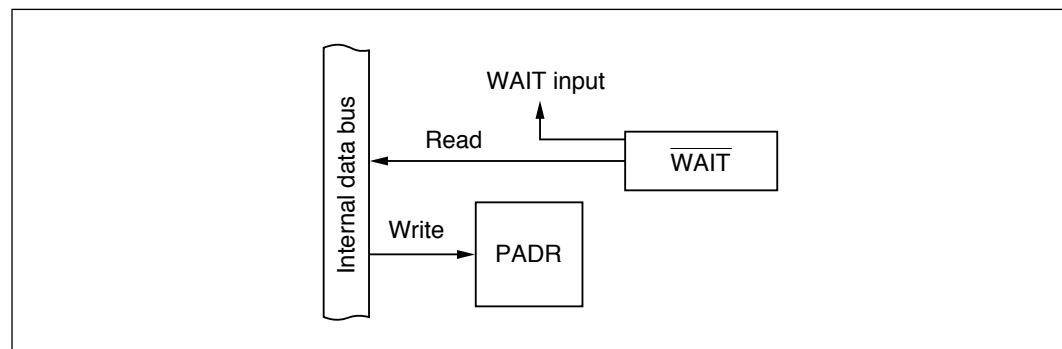

Figure 9-65 $\overline{\text{WAIT}}$ Input Pin (Modes 1 to 6)
(5) $\overline{\text{WAIT}}$ Pin (PA_4 ; Modes 1 to 6): Figure 9-65 shows a block diagram illustrating the $\overline{\text{WAIT}}$ function. Table 9-48 indicates register read/write data. When PA_6 is used for $\overline{\text{WAIT}}$ input, the value written in the port A data register (PADR) has no effect. When read, PADR returns the level of the $\overline{\text{WAIT}}$ signal.